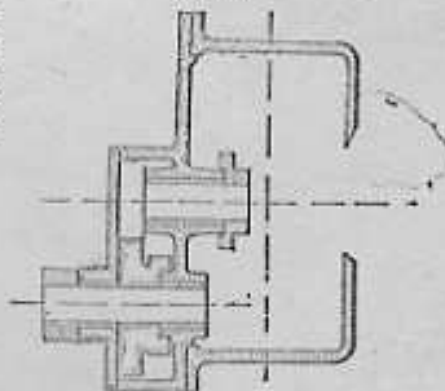

Fig. 12.
**Crank Chamber.** Fig. 12 is part section of "crank chamber No. 433" and "crank case No. 444," showing the 2 to 1 gear bushes Nos. 445 and 446. The screw thread seen to the right of the fig. is for the "contact breaker" plate to screw on.